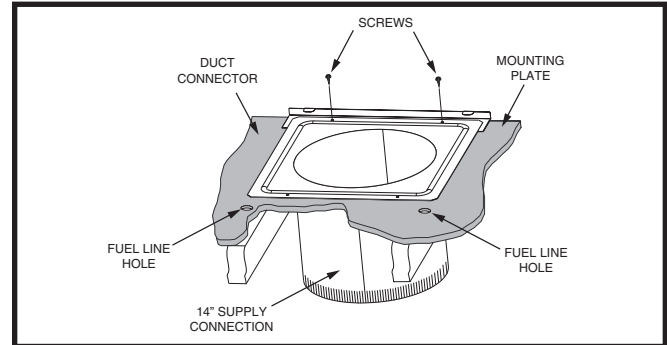

Figure 13. Round Duct Connector Installed
3. Install the mounting plate under the back side of the duct connector. See Figure 13 \(page 9\). **NOTE:** Align the screw holes in both components.